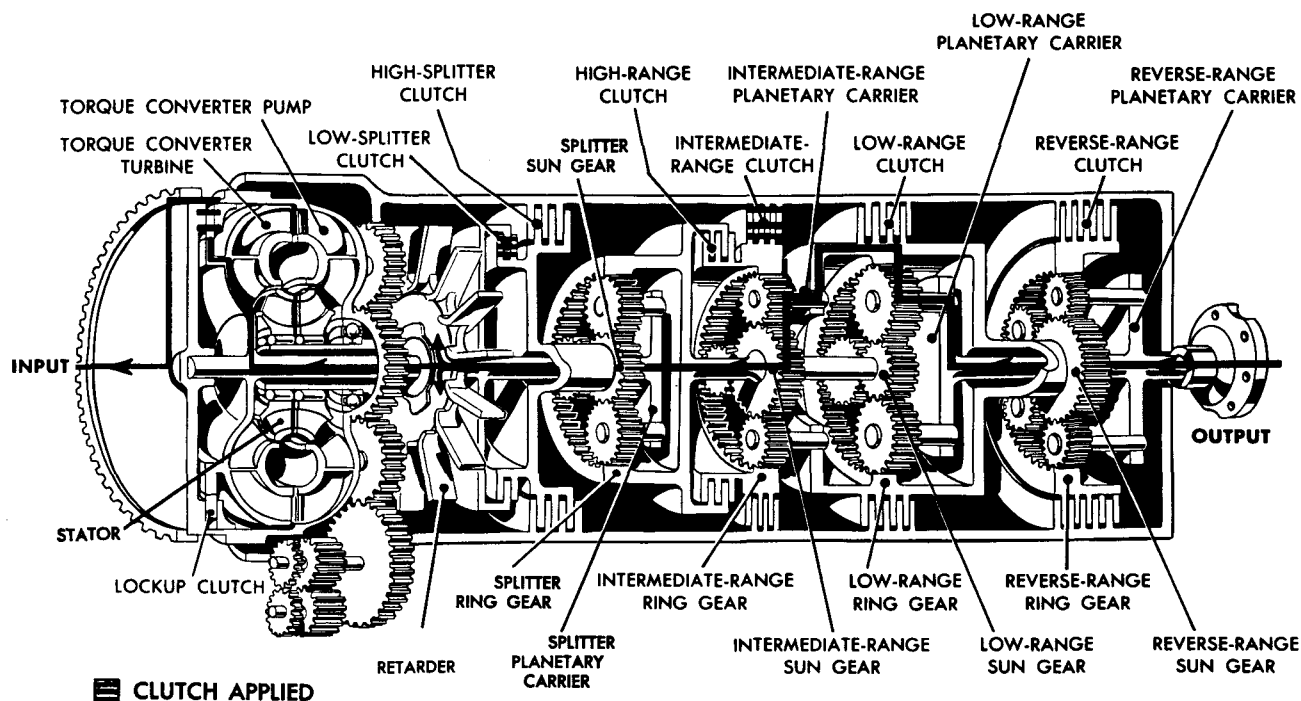

Fig. 2-12. Hydraulic retarder operation, second gear (5640, 5840), third gear (5660, 5860)—torque path
**k. Hydraulic Retarder Operation, Second Gear (5640, 5840); Third Gear (5660, 5860)—Torque Path (fig. 2-12)**
(1) During operation of the hydraulic retarder, the flow of torque through the transmission is reversed. The driving gear in which the retarder is applied depends upon vehicle speed and the degree of retarding desired. Figure 2-12 illustrates the torque path in second gear (5640, 5840) or third gear (5660, 5860).
(2) Torque enters the transmission at the rear (normally the output). It is transmitted through the applied range clutch and planetary gearing, and through the splitter clutch. Because torque is transmitted in the opposite direction, through a clutch and gear system which normally reduces speed and increases torque, torque is reduced while speed is increased. Thus, the hy-